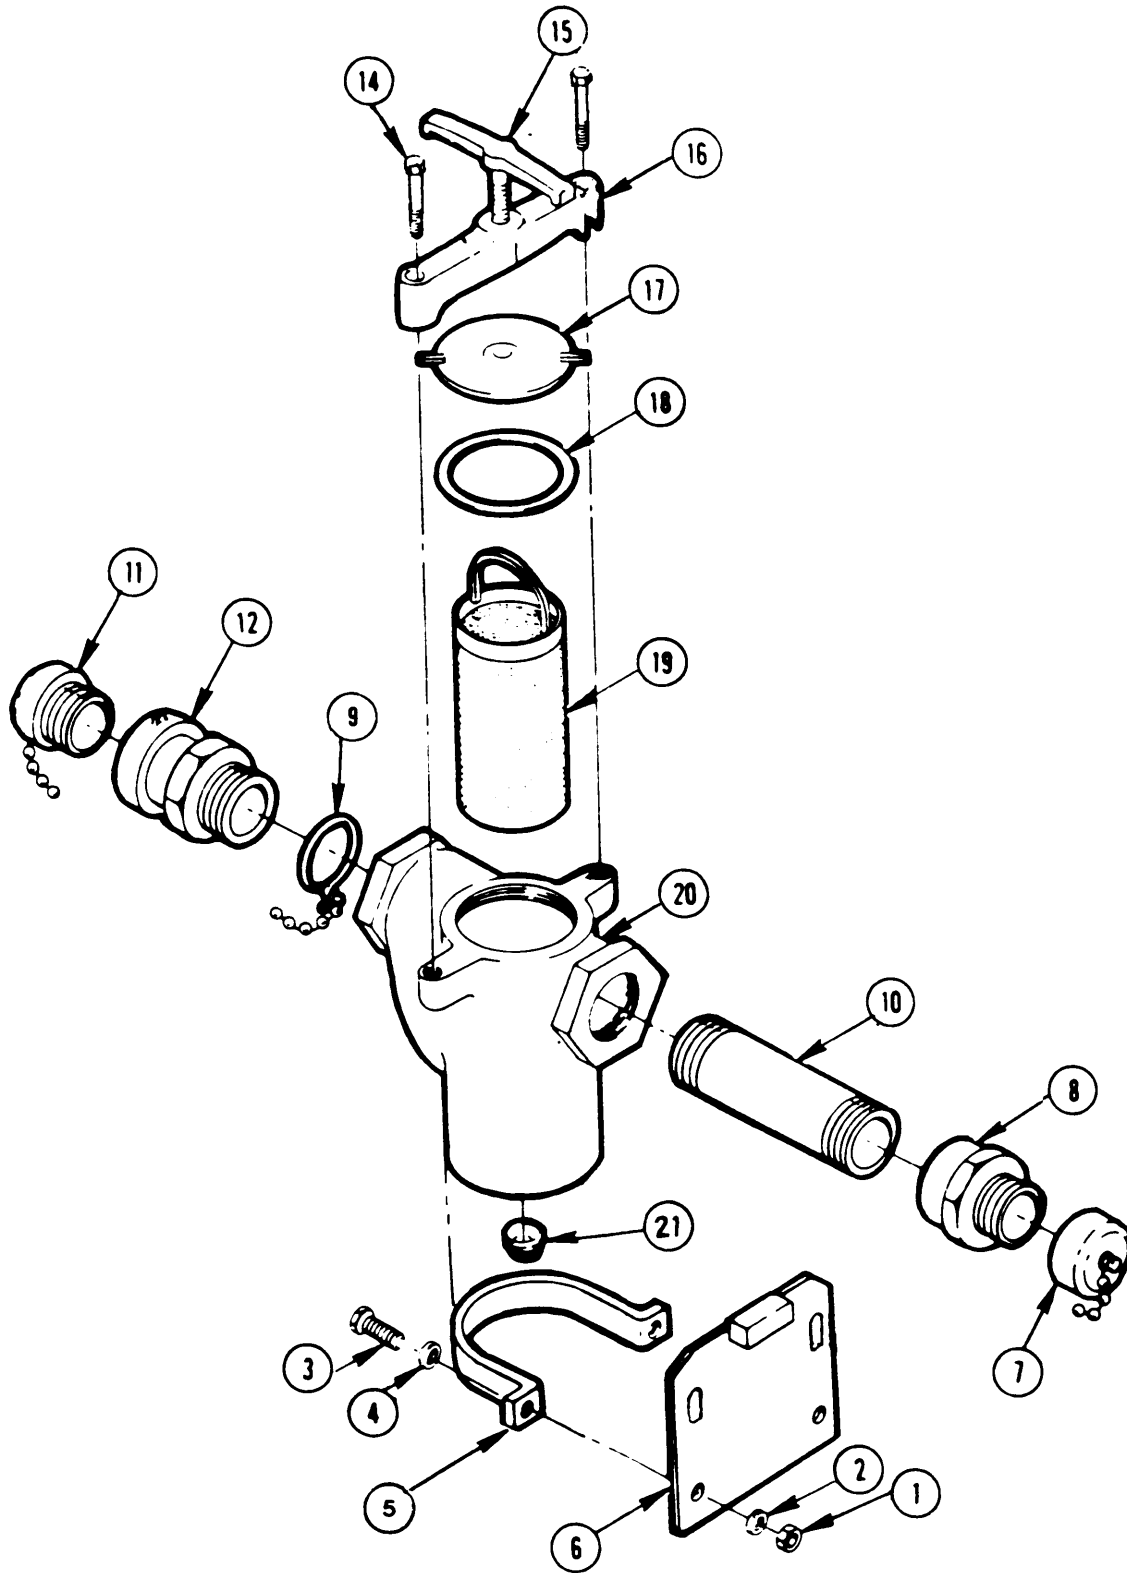

Figure 2-41. Backwash Pump Strainer
- (1) Slip cable grip (14) over cable.
- (2) Insert tagged wires through hole in conduit box (15).
- (3) From inside conduit box (15), slip cable grip nut (13) over wires and mount cable grip (14) to conduit box (15).
- (4) Slip ground wire lug (12) on bolt (11).
- (5) Install bolt (11) and ground wire (12) into conduit box (15) and motor.
- (6) Slip three sets of wire lugs (9) over three screws (10) (in pairs) and remove tags.
- (7) Install flat washer (8), lockwasher (7), and nut (6) on screw (10) on wire lugs (9).
- (8) Wrap each set of wire lugs with tape (5) and tie wires into bundle using lacing cord (4).
- (9) Carefully insert wire bundle into conduit box (15).
- (10) Install four screws (1), conduit box cover (2), and new gasket (3) to conduit box (15).
i. Backwash Pump Strainer. (Figure 2-41)
- j. To remove strainer from backwash pump assembly, perform paragraph 2-41 c, step (4) or (5) as applicable.
k. Strainer Disassembly. (Figure 2-41)
- (1) Remove two nuts (1) and two lockwashers (2) from screw (3).
- (2) Remove two screws (3) and two flat washers (4) from strap (5) and mounting plate (6).
- (3) Remove strap (5) and mounting plate (6) from strainer body (20).
- (4) Cut wire (9) and remove cap (7) from adapter (8).
- (5) Remove adapter (8) from pipe (10).
- (6) Remove pipe (10) from strainer body (20).
- (7) Remove cap (11) from adapter (12).
- (8) Remove adapter (12) from strainer body (20).
- (9) Loosen T-handle (15) to release pressure on strainer cap (17).
- (10) Remove two bolts (14) and yoke (16) with T-handle (15) from strainer body (20).